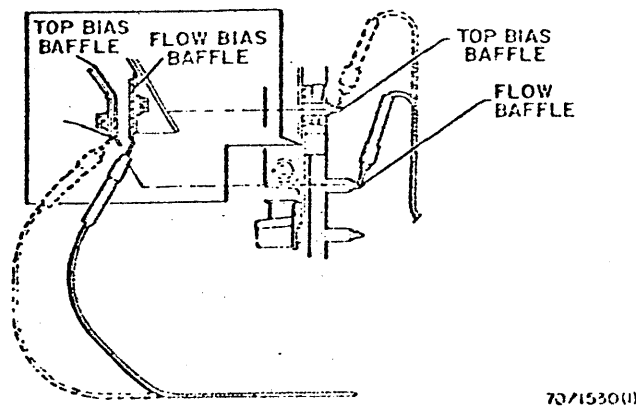

Fig. 3-175. Top Bias or Flow Bias Baffle Resistance
2. Connect the meter as in Figure 3-175.